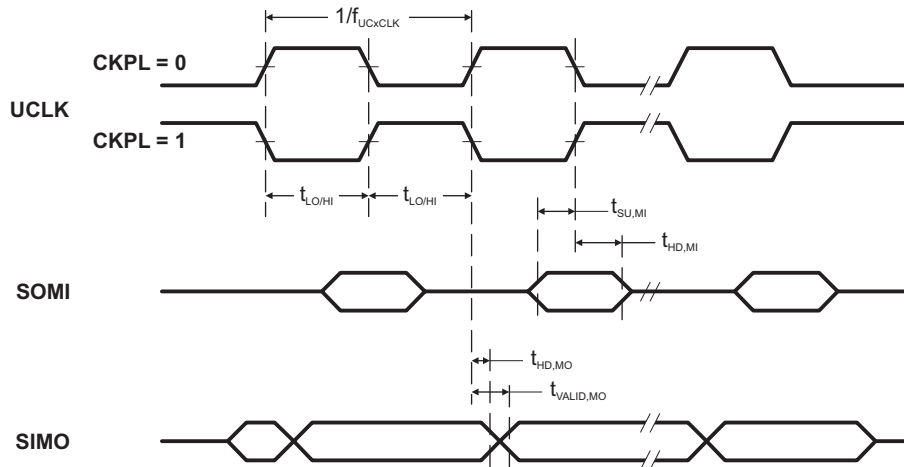

Figure 12. SPI Master Mode, CKPH = 0
(see Note ⁽¹⁾, Figure 12 and)
- (2) Specifies the time to drive the next valid data to the SIMO output after the output changing UCLK clock edge. See the timing diagrams in Figure 12 and .
- (3) Specifies how long data on the SIMO output is valid after the output changing UCLK clock edge. Negative values indicate that the data on the SIMO output can become invalid before the output changing clock edge observed on UCLK. See the timing diagrams in Figure 12 and .